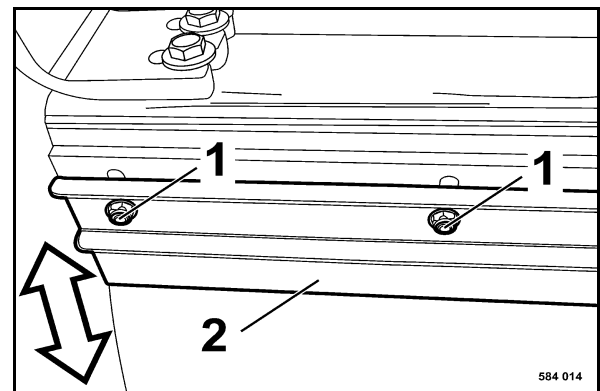

Fig. 193
- In order to adjust the scrapers 2 (Fig. 193), slacken the fastening screws (1) in the slots and push the scraper towards the drum to contact.